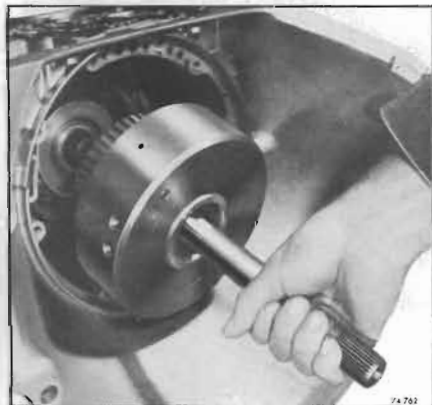

Figure 74-762
19. Install the forward clutch and turbine shaft assembly, indexing the direct clutch hub so end of the mainshaft will bottom on end of the forward clutch hub. When forward clutch is seated it will be approximately 1-1/4" from pump face in case. See Figure 74-762.